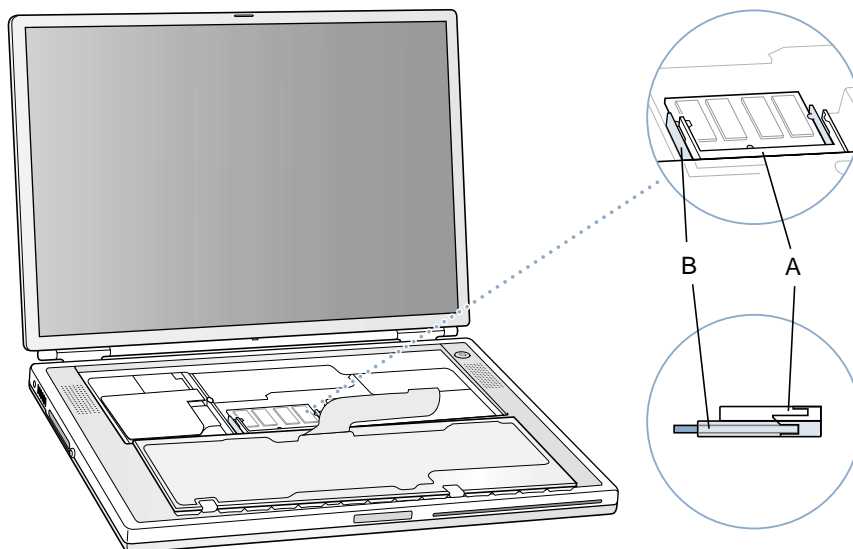

Figure 6
1. To remove a memory card, locate the brackets that secure the card on both sides (**Figure 6**). Carefully spread the brackets apart until the card releases on each side. Pull the card up and out.